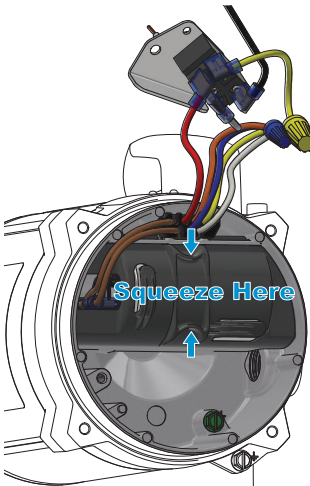

Figure 7
4. Remove the wires from their organizer clips and remove the plastic cover. (see Figure 7)